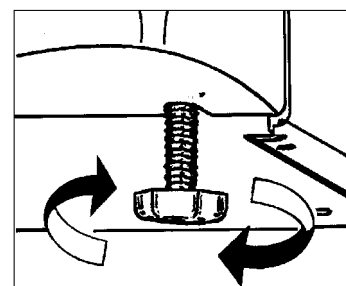

Fig. 5
Level the appliance by turning the 2 adjustable feet at the front of the appliance. The appliance must be level to prevent vibration and excessive noise and to ensure the doors shut correctly. (Fig 5)
1. Open the freezer door. Remove the plinth (A) at the bottom of the appliance, by pushing downwards and pulling outwards. (See fig 5)
2. Remove the hinge cover (B) in the plinth and reposition on the opposite side of the plinth.
7. Unscrew the small blanking plugs (3) and refit on the opposite side to cover the vacant hinge holes.
8. Unscrew the hinge pin (4) in the upper and lower hinge blades and refit on the opposite side.
9. Change the door self-closing system (5) by moving the device from the freezer door and viceversa.